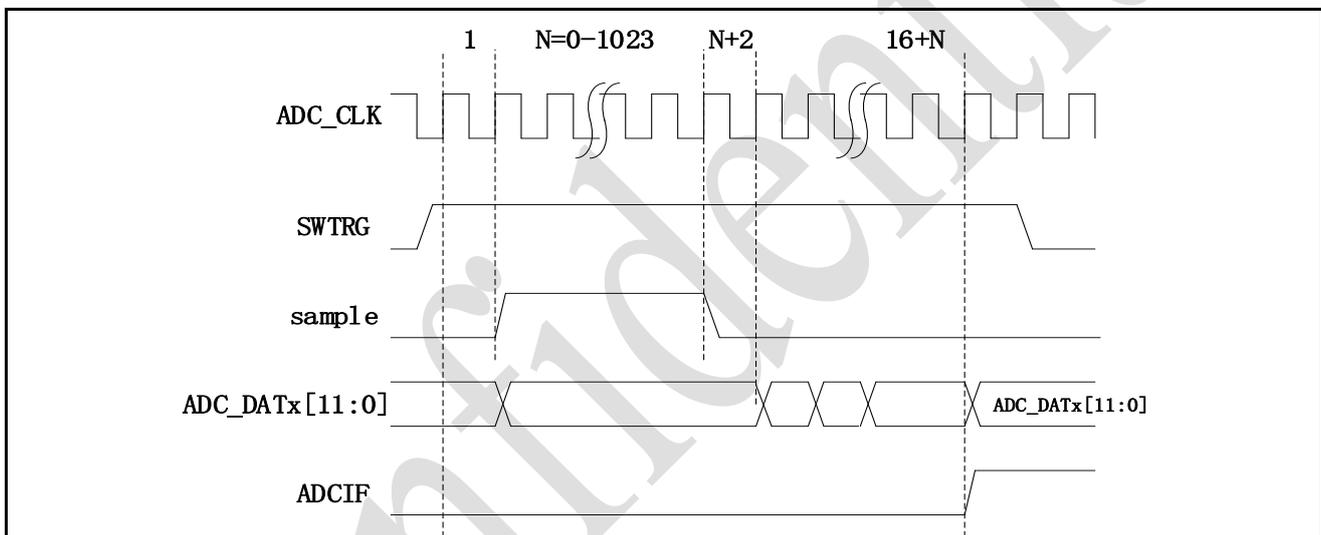

Figure 4-96 Single Mode Conversion Timing Diagram
5. Figure 4-96 shows an example timing diagram for Single mode.